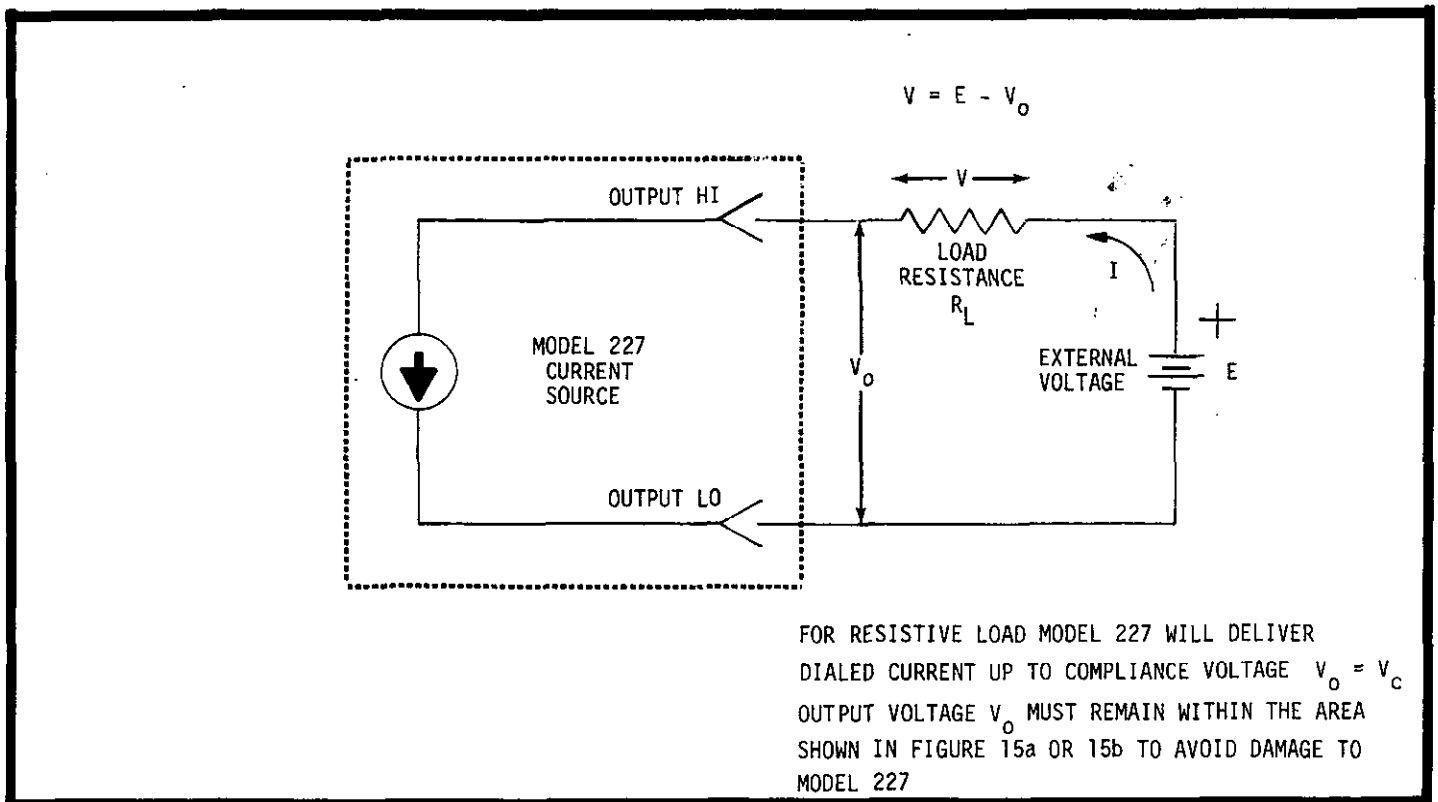

FIGURE 11. Connections as a Current Sink with Resistive Load.
2. Operation as a Current Sink. The Model 227 can be used as a current sink as shown in Figure 11. In this case, the current flow is into the Model 227. The output voltage V_o is a function of E , I , and R_L where: